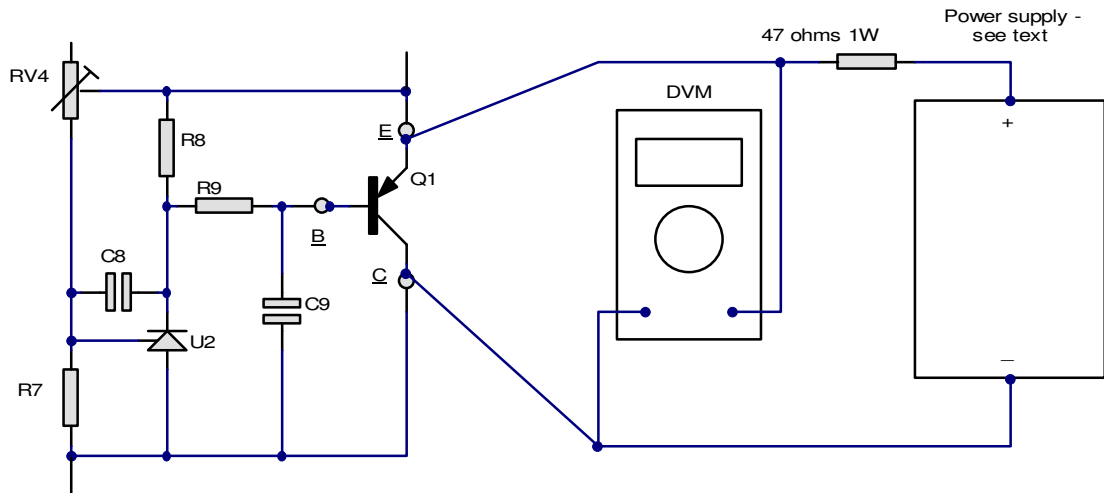

Figure 13: Cathode bias test setup
1. Connect Q1 (use the heatsink as described in Section 2.2, and observe correct connections). To apply current through the cathode bias regulator, connect a 47Ω 1W resistor from the + terminal of an external power supply to the E terminal of Q1 (see Figure 13). Connect the – terminal of the power supply to the C terminal of Q1.